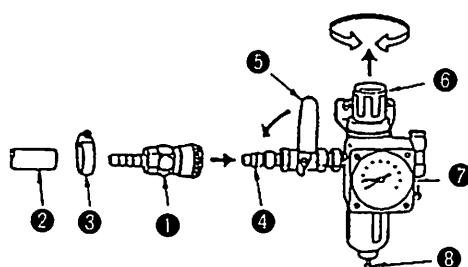
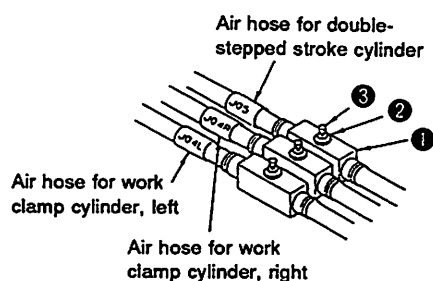
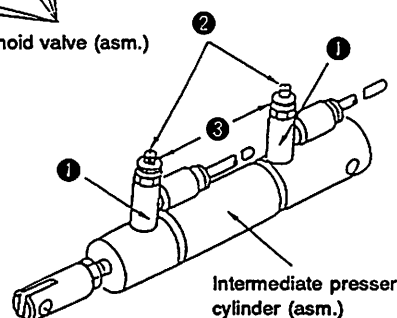

Fig. 4-8-1
Fig. 4-8-3
Fig. 4-8-4
- 1) Connect quick-coupling joint ① in place and open air cock ⑤. The pressure gauge ⑦ indicates 5 to 5.5 kgf/cm² (0.5 MPa to 0.55 MPa). (Fig. 4-8-1)
- 2) If pressure gauge ⑦ indicates 4 kgf/cm² (0.4 MPa) or lower value, the machine will stop with Error A shown on the operation panel. (Fig. 4-8-1)
- 5) The needle knob of the speed controller (for feeding frame) cylinder has been fixed at the position that is reached by loosening the knob by one turn after fully tightening it. (Fig. 4-8-3)
- 6) The needle knob of the speed controller (B) (for the intermediate presser cylinder) is fixed using a nut with loosened by 5 turns after it has been fully tightened. (Fig. 4-8-4)
<ol style="list-style-type: none"> 1) Open air cock ⑤. Pull up air adjusting knob ⑥, then turn it until pressure gauge ⑦ indicates 5 to 5.5 kgf/cm² (0.5 MPa to 0.55 MPa). Then push down the knob to fix it at that position. (Fig. 4-8-1) 2) Set the machine in its sewing state. Now remove the air hose by pressing section ② of pressure reducing valve ① which is fixed on the solenoid valve (asm.), and connect a commercially available pressure gauge instead of the removed air hose. (Fig. 4-8-2) Depress the feeding frame switch 5 times or more, and turn needle knob ② of pressure reducing valve ① until the connected pressure gauge indicates 1 to 1.5 kgf/cm² (0.1 MPa to 0.15 MPa). Then fix the needle knob using nut ③, and remove the pressure gauge. Now, securely connect the removed air hose in place. (Fig. 4-8-2) 3) Following the procedure same as described in step 3), depress the intermediate stop switch 5 times or more, and adjust so that the connected pressure gauge indicates 1 to 1.5 kgf/cm² (0.1 MPa to 0.15 MPa). 4) Referring to the Standard adjustment (8)-5), properly adjust needle knob ② of speed controller ① and fix the knob with nut ③. (Fig. 4-8-3) 5) Remove the top cover. Referring to the Standard adjustment (8)-6), properly adjust needle knob ② of speed controller ① and fix the knob with nut ③. (Fig. 4-8-4) 	<ol style="list-style-type: none"> 1) Function failure of the feeding frame components and intermediate presser components may result. The machine stops with Error A indicated on the operation panel. 2) An adequate work pressing pressure is not provided. 3) The feeding frame may fail to go up until its highest position is reached. 4) The speed of vertical motion of the feeding frame may be too high or too low. 5) The intermediate presser may fail to move smoothly, or it may generate a keen metallic noise when it is in operation. <p>[Caution] Normally, Standard adjustments (8)-2) through -6) are not required to be adjusted. Needle knobs and nuts referred in steps 3) through 6), in particular, have applied with oil-resistant white coating material to show that they have been already adjusted properly.</p> <p>* To set the air pressure to 0 kgf/cm², close air cock ⑤ and press button ⑧. (Fig. 4-8-1)</p>